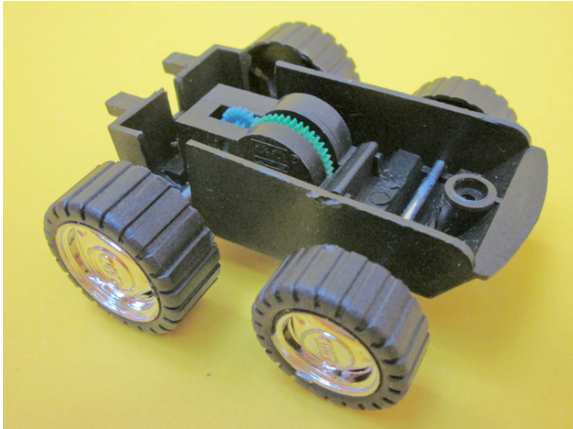

Figure 3: toy car stripped to chassis
2. Use a small Phillips screwdriver to remove the body of the toy so that you are left with the 4-wheel chassis and exposed motor. See Figures 3 and 4